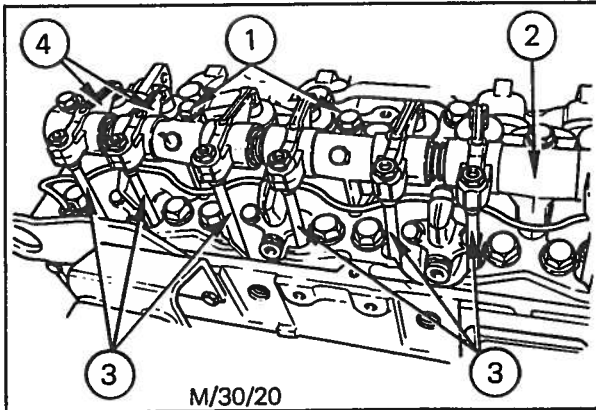

Fig. 78 - Installing Valve Gear
- 105. Install the pushrods and valve caps into the same positions as when removed, position the rocker shaft assembly, locating the adjuster ball ends into the push rod cups, and gradually and evenly tighten the retaining bolts to the specified torque - see Fig. 78.